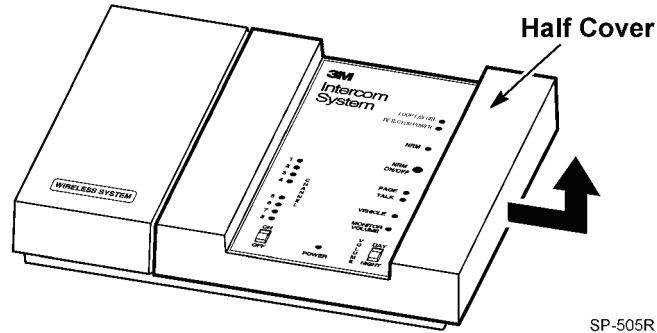

Figure 16.
1. Pull outward on the right side of the base station half-cover and then lift and remove the cover. See Figure 16.